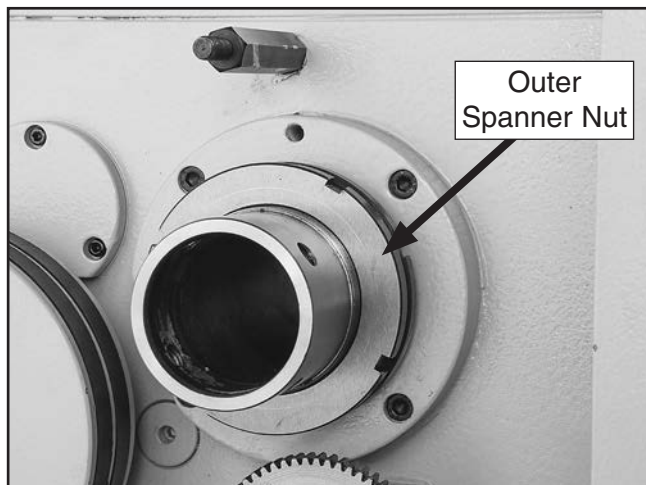

Figure 142. Outer spanner nut re-installed.
12. Without allowing inner spanner nut to tighten any further, install and tighten outer spanner nut against inner nut (see **Figure 142**).